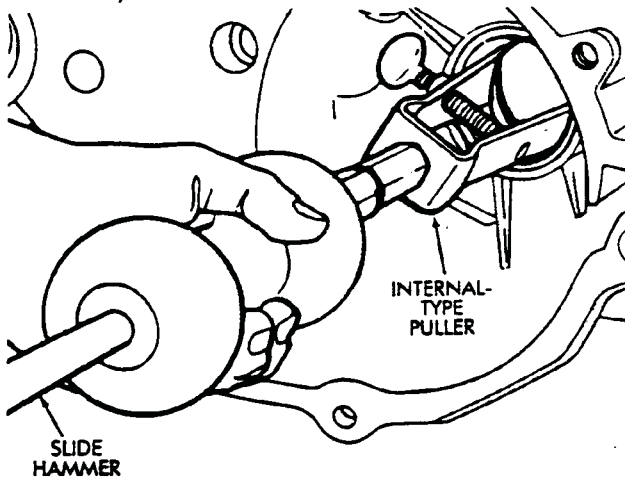

Fig. 4-26 Removing Rear Output Shaft Bearing
1. Remove the rear output shaft bearing with an internal puller and slide hammer (Fig. 4-26).